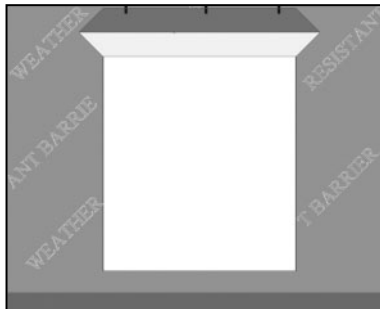

FIG. 5
- F) Cut the weather-resistant barrier (WRB) in a "Modified I" pattern. (Fig. 5)
- H) From the exterior, cut the top of the WRB to form a flap. (Fig. 5)